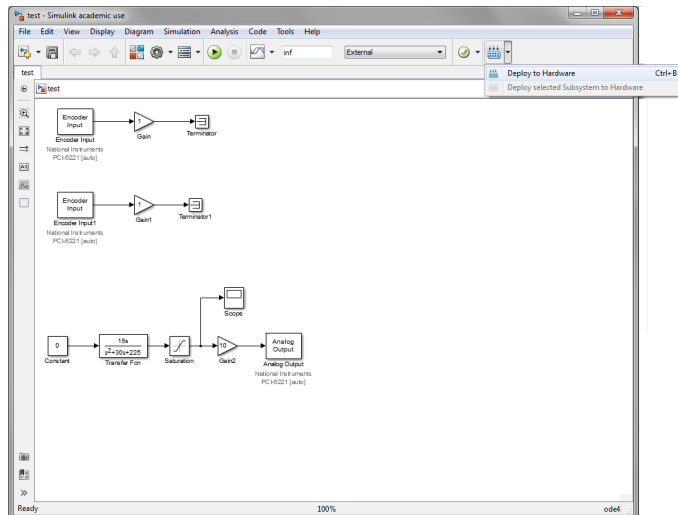

Figure 26: The Simulink model in External mode: Deploy to Hardware.
- (b) create an executable target application by clicking the 'Deploy to Hardware' icon in the toolbar (see Figure 26)